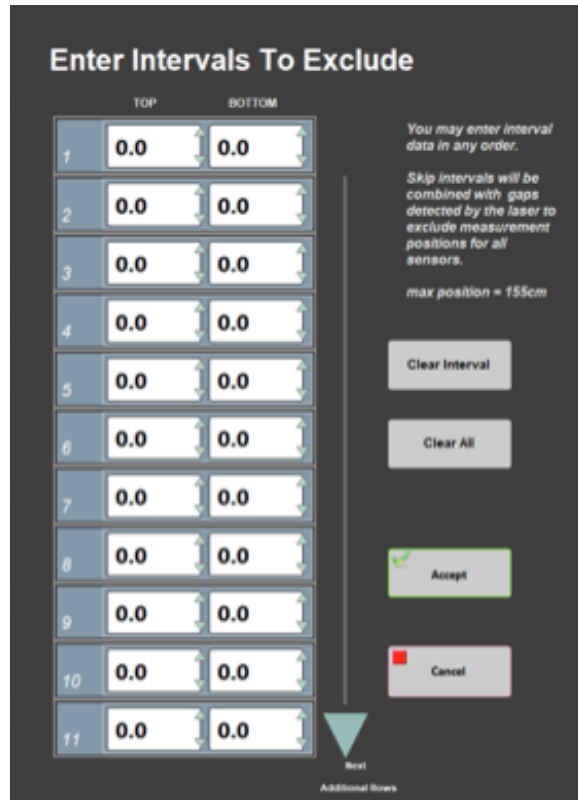

Figure 25. Exclude Intervals Window
- **Exclude Intervals:** Intervals can be specified for omission (Figure 25). Enter the top and bottom offsets of the areas to be excluded during the measurement. The excluded intervals apply to all enabled sensors. A green indicator on the sample information entry window (Figure 4) will appear when intervals are set to be excluded.